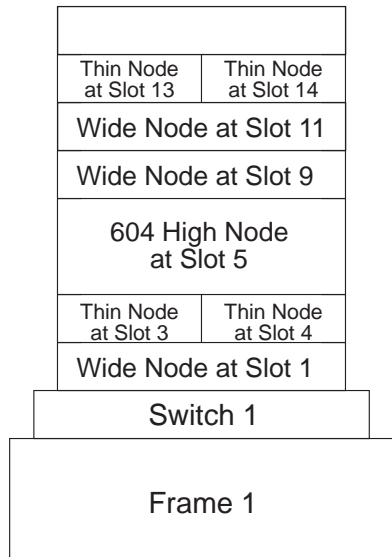

Figure 10. Node Slot Assignment
- A thin node occupies a single slot in a drawer and its slot number is the corresponding slot. (See thin nodes in Figure 10 on page 92.)
- A wide node occupies two slots and its slot number is the odd-numbered slot. (See the wide nodes in Figure 10 on page 92.)